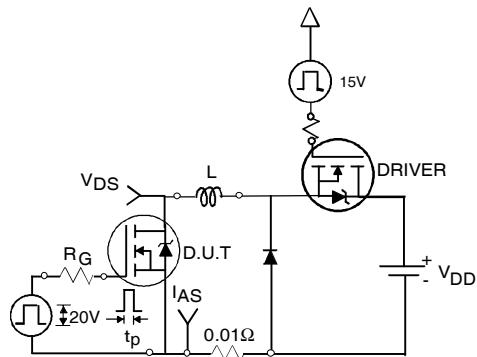

Fig 12a. Unclamped Inductive Test Circuit
- ③ $I_{SD} \leq 125\text{A}$, $di/dt \leq 260\text{A}/\mu\text{s}$, $V_{\text{DD}} \leq V_{(\text{BR})\text{DSS}}$, $T_J \leq 175^\circ\text{C}$
- ④ Pulse width $\leq 400\mu\text{s}$; duty cycle $\leq 2\%$.
⑤ $C_{\text{oss eff.}}$ is a fixed capacitance that gives the same charging time as C_{oss} while V_{DS} is rising from 0 to 80% V_{DSS} .
⑥ Calculated continuous current based on maximum allowable junction temperature. Package limitation current is 90A.
⑦ Limited by $T_{J\text{max}}$, see Fig.12a, 12b, 15, 16 for typical repetitive avalanche performance.
3. Equation below based on circuit and waveforms shown in Figures 12a, 12b.